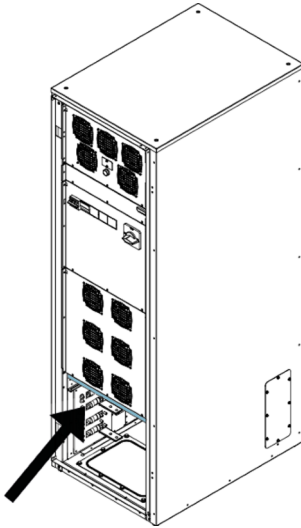
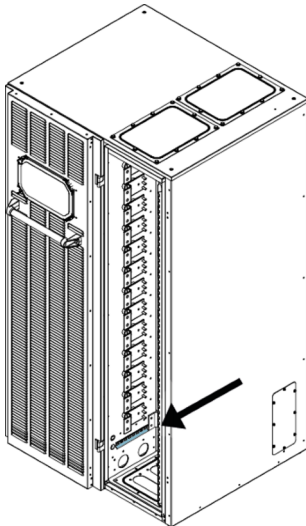

Figure 31. Signal cable terminals, 9PHD narrow cabinet frame
Figure 32. Signal cable terminals, 9PHD wide cabinet frame
2. Terminal block X13 for external parallel control signals is accessible on the signal interface area, above or next to the power wiring terminals (see Figure 31 and Figure 32).
For information on the location and connections of signal cable terminals, see Figure 31, Figure 32 and Table 19.